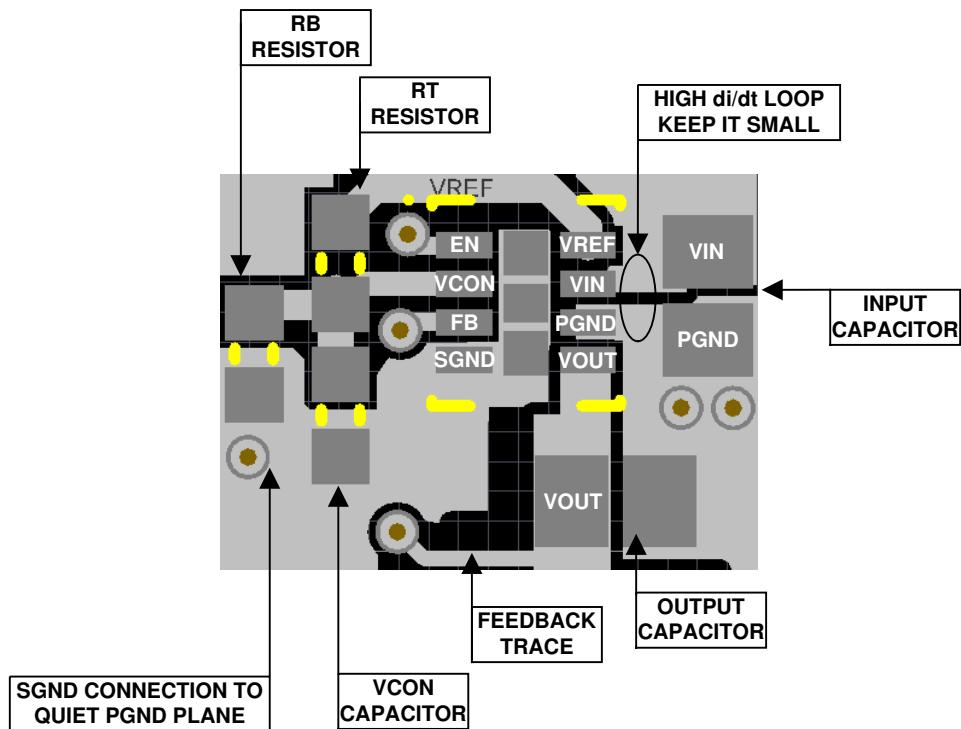

Figure 8-26. Example Top Layer Board Layout
The LMZ10500 integrates the inductor and simplifies the DC/DC converter board layout. Refer to the example layout in Figure 8-26. There are a few basic requirements to achieve a good LMZ10500 layout.
2. Place the V_{CON} filter capacitor C_{VC} and the R_B R_T resistive divider as close as possible to the V_{CON} and $SGND$ terminals. The C_{VC} capacitor (not R_B) must be the component closer to the V_{CON} pin, as shown in Figure 8-26. This allows for better bypass of the control voltage set at V_{CON} .